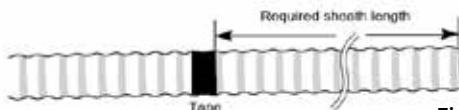

Figure 11
- Step 1:** Use the tape measure to the proper length and mark this length with a wrap of tape (Figure 11).